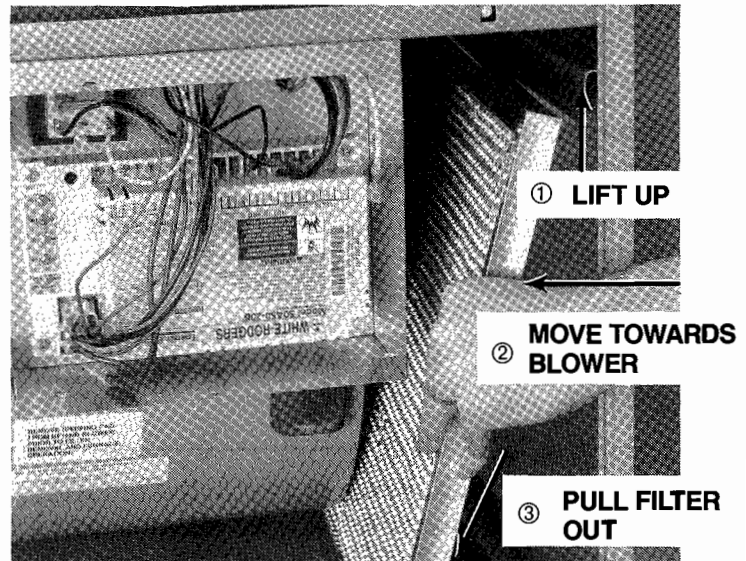

FIG. 6 — SIDE AIR RETURN FILTER REMOVAL
- 3a. If your furnace has side air returns, proceed as shown in Fig. 6. To remove the filter, grasp the lower portion of the filter, lift it up to disengage it from the lower railing (step 1), move it toward the blower (step 2), and lower it out of the top railing before pulling it out (step 3).